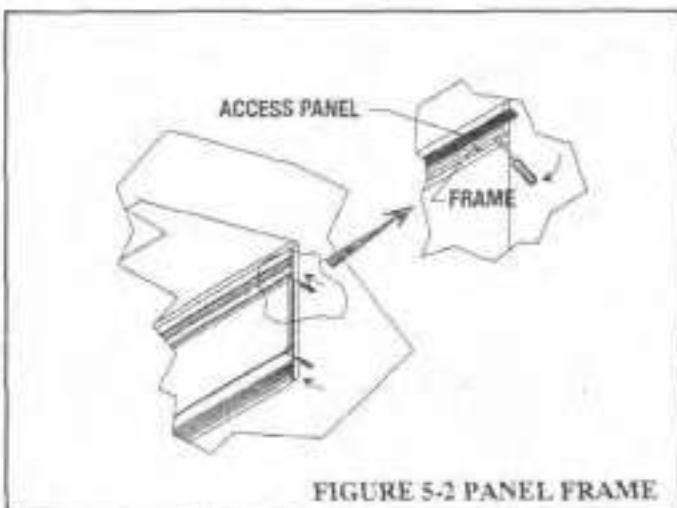

FIGURE 5-2 PANEL FRAME
3. Open the upper and lower access panels. Refer to Figure 5-2.